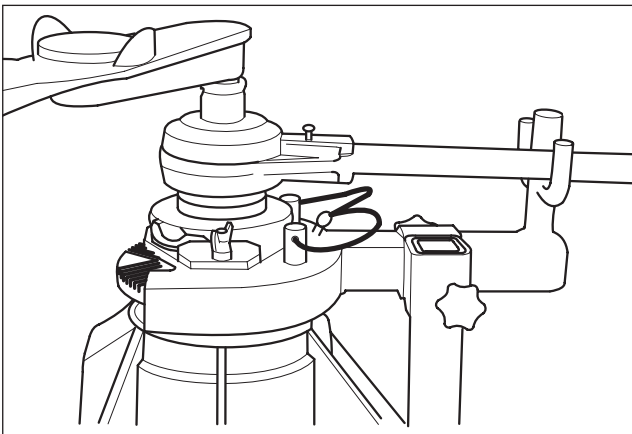

Fig. 4.15
10. Tighten flange lock nut to a torque of 2000 ± 2200 Nm (Fig. 4.15)